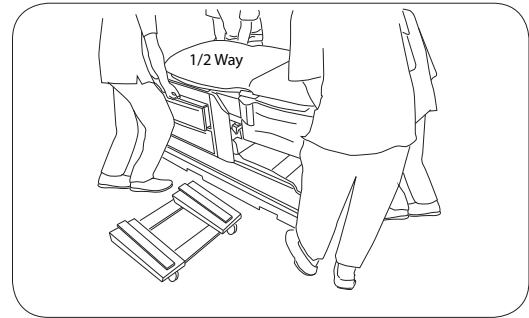

Figure 15. Lift, move half-way and lower
15. Position personnel at the front and rear of the table (figure 15). Do not lift yet.
18. For safety, move table onto furniture dolly in two steps. Lift table straight up, move half-way off of pallet and lower straight down (figure 15).